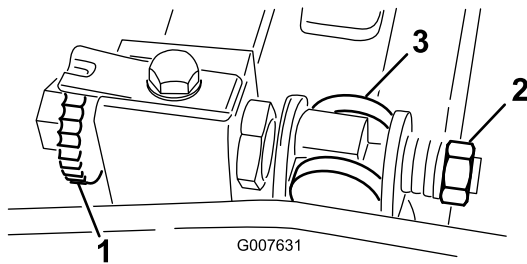

Figure 56
1. Turn the bedbar-adjuster screw counterclockwise to back the bedknife away from the reel (Figure 56).
2. Back out the spring-tension nut until the washer is no longer tensioned against the bedbar (Figure 56).